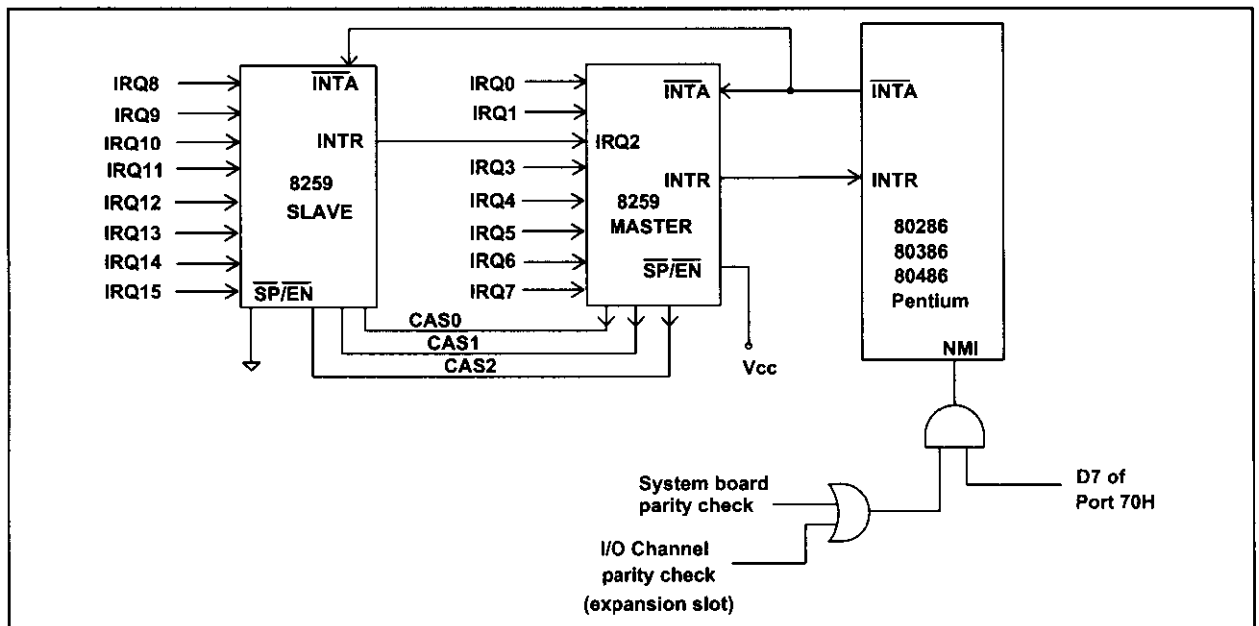

Figure 14-11. 8259 Chips in Master/Slave Relation for 286 and Higher PCs
In the design of the 80286-based IBM PC AT, IBM designers had to make sure that it was compatible with the 8088-based PC/XT. This lead to the use of IRQ0 and IRQ1 for the system timer and keyboard, respectively, as was the case in the PC/XT. IBM made the first 8259 a master, and added the second 8259 in slave mode. To do that, it connected the INT pin of the slave 8259 to IRQ2 of the master 8259. The master and slave 8259s communicate with each other through pins IRQ2, INT, CAS0, CAS1, and CAS2. See Figure 14-11. A detailed discussion of 8259 design in master and slave modes in IBM PC AT and compatibles follows.
1. The 8259  $\overline{SP/EN}$  pin must be connected to 5 V, VCC, to make it the master in nonbuffered mode. See Figure 14-11.
1.  $\overline{\text{SP/EN}}$  must be grounded ( $\text{SP/EN} = 0$ ) for the 8259 in slave mode for nonbuffered mode. See Figure 14-11.